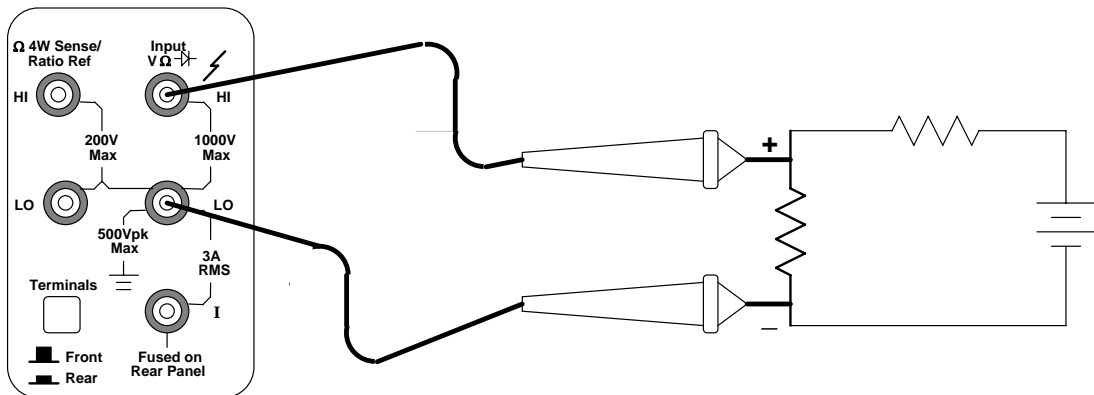

Figure 5. Voltage measurement. Note the location of where the leads attach to the DMM.
- Connect leads to the **HI** and **LO** terminals marked **1000 V Max** (see Figure 5). Voltmeters are connected in parallel with the element. We do not need to modify the circuit when making voltage measurements. Since voltages are measured “across” an element, we simply place the leads across the two points in the circuit.
Use the **HI** and **LO** terminals marked **1000 V Max** (as you would for voltage measurements -- Figure 5). The meter can measure frequency from 3 Hz to 300 kHz (period from 0.33 sec to 3.3  $\mu$ sec). For frequency and period measurements, ranging applies to the signal's input *voltage*, not its frequency.